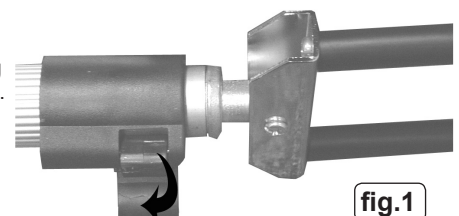

fig.1
- 3.2. Attach to the underside of the car bonnet by releasing the locking clips (fig.1.), pulling the spring loaded bracket arms apart and allowing them to close around the bonnet sides, secure the clips.